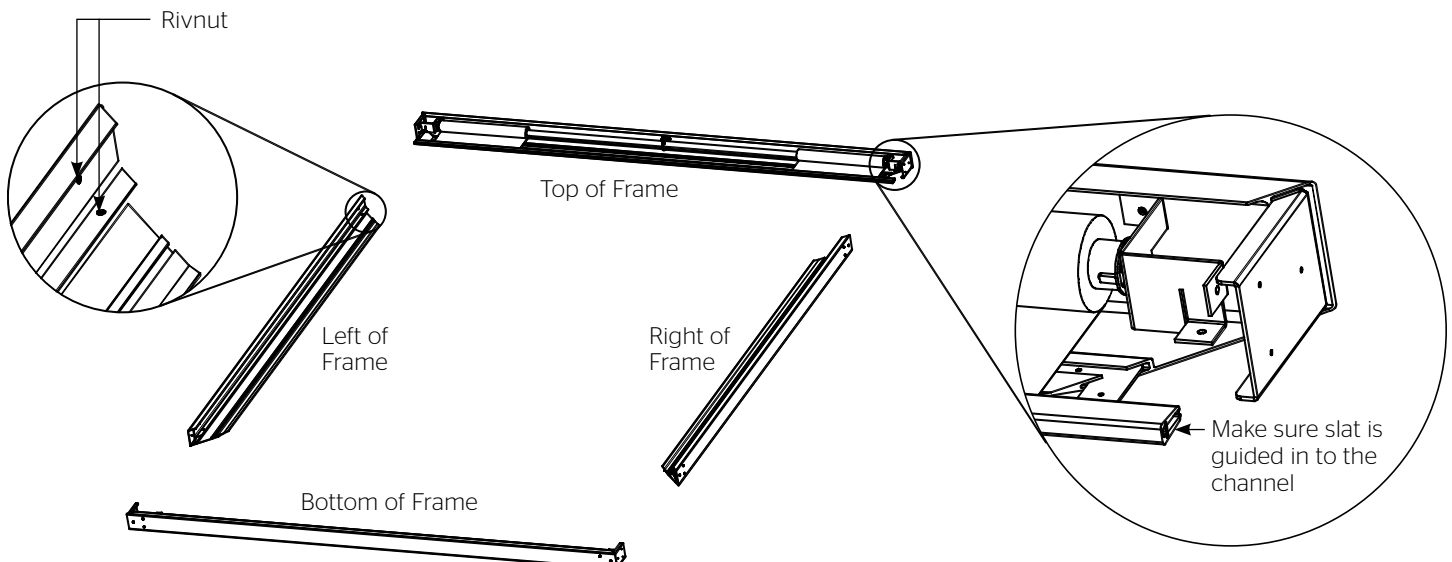

Figure 1
2. To open the boxes there is a side flap that is taped down the length of the box. It will be labeled OPEN THIS SIDE (Figure 1). Carefully cut tape down the length of the box with a utility knife and fold box open. You will have to tear hard on the ends as it is stapled on the ends.
1. In the hardware bag, you will receive (12) #10 x .500" long hex button head screws required for frame assembly.
2. Lay frame pieces out on floor or table as shown in Figure 1. The top frame assembly has the roller and motor assembly attached to it. The side frames are the two shorter pieces. Watch side piece to make sure oriented properly. The sides have two riv nuts used for roller mounting brackets that should face toward the top frame piece.